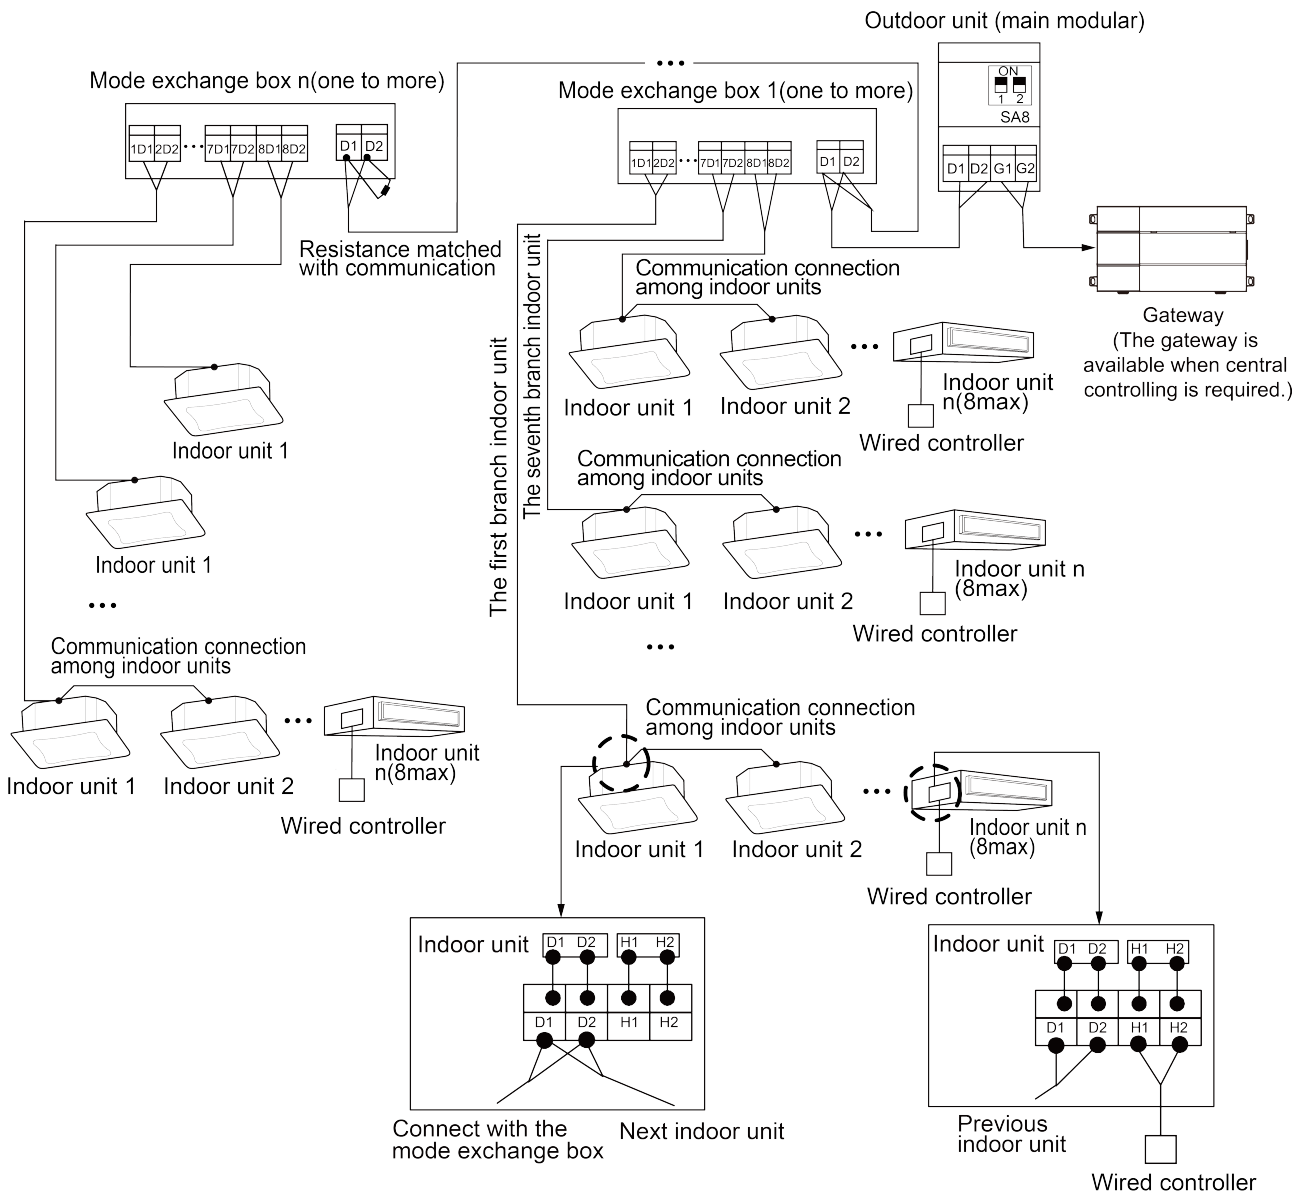

Fig.5.10
- (1) Open electric box cover of indoor unit.
- (2) Pass the communication wire through rubber ring.
- (3) Connect communication wire to wiring board OD(D1, D2) of outdoor unit of mode exchange box.
- (4) Connect communication wire lead from D1 and D2 terminal of 4-bit wiring board of indoor unit to wiring board ID1(1D1, 1D2) of indoor unit of mode exchange box; ID2(2D1, 2D2.....ID-n(nD1, nD2),  $n \leq 8$ , As shown in Fig.5.10